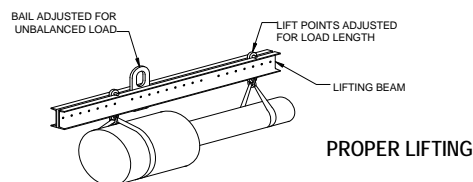

Figure 3
3. Adjust lift points on unbalance loads (See example, Figure 3).